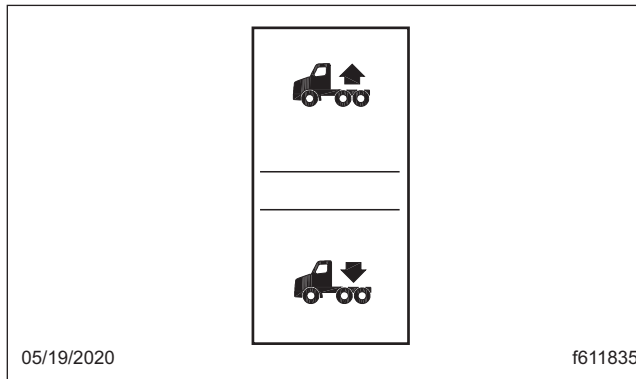

Fig. 4.31, Air Suspension Height Control Switch
- each up press on the dash switch (see Fig. 4.31) increases the suspension height an increment, unless the suspension is at maximum height